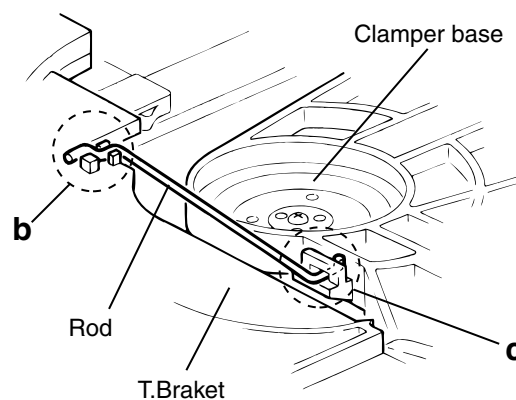

Fig.2
5. From the T.bracket section "b" and clamber base section "c", remove both of the edges fixing the rod(See Fig.2 and 3).